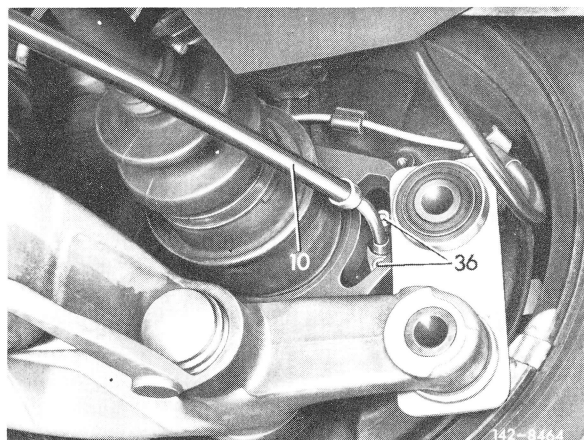

Fig. 2
3 On vehicles with diagonal swing axle with starting torque compensation, unscrew both hex. socket bolts (36) from wheel carrier (Fig. 2).